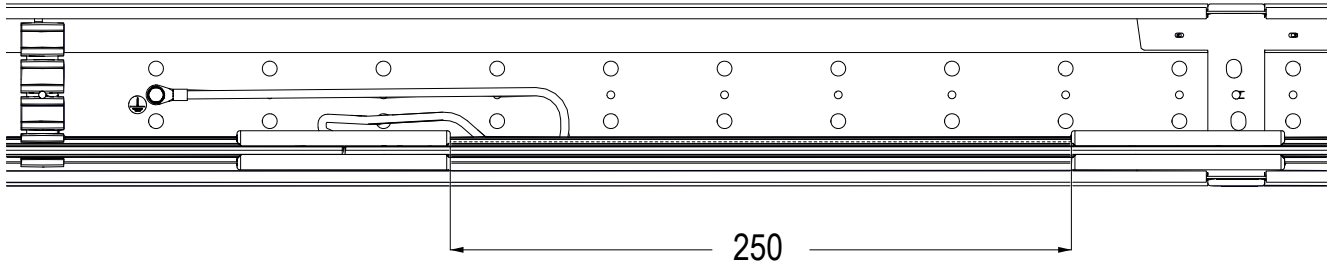

Fig. 50: Distance from connector with protective conductor connection to normal connector
- Lay the other PE cable end in a loop on the ProShell support profile (see Fig. 50) and attach the ring terminal to the PE cable using the screw elements (1, 2, 4 and 5) on the ProShell support profile (see Fig. 49). For this purpose, an existing bore in the ProShell support profile rail can be used. Laying the PE cable in a loop is therefore important, since the conductor rail, including its connector, is subject to thermal expansion and can therefore lengthen or shorten (see Fig. 50).